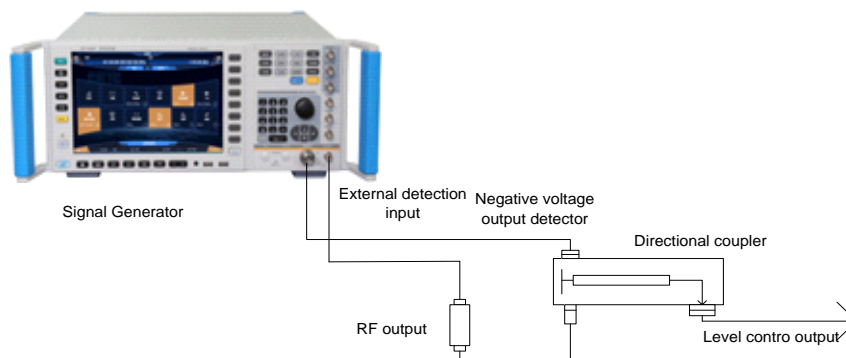

Fig. 4.10 Wiring Diagram of ALC Circuit for External Level Control Measurement
A typical setup of external level control is shown in Fig. 4.10. In external level control mode, the amplitude level will be fed back by the negative voltage output detector rather than the internal detector. The fed-back voltage controls the ALC system and thus the output amplitude.
- 1) Connect the instrument as shown in Fig. 4.10;